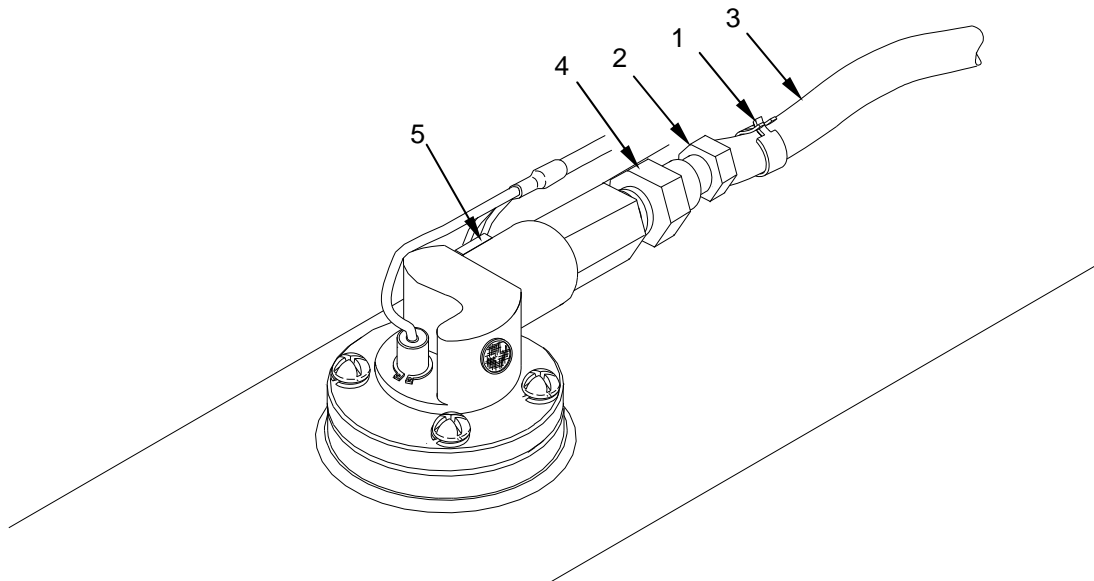

Figure 2. Inspect the Check Valve.
8. Remove the air hose by squeezing the tabs on hose clamp (Figure 2, Item 1) with a pair of pliers and slide the clamp off the vent valve fitting (Figure 2, Item 2) and onto the neoprene line (Figure 2, Item 3). It may be necessary to cut or replace the hose to remove it.
9. Remove the check valve (Figure 2, Item 4) by holding the solenoid fitting (Figure 2, Item 5) with a suitable wrench while turning the check valve with another suitable wrench. Be careful not to turn the fitting on the solenoid valve.
13. If air is drawn through the check valve, it is serviceable. Remove the check valve (Figure 2, Item 4) from the air line (Figure 2, Item 3).
14. Install the check valve (Figure 2, Item 4) by holding the solenoid fitting (Figure 2, Item 5) with a suitable wrench and turn the check valve with another suitable wrench. Be careful not to turn the fitting on the solenoid valve.
15. Connect the air line (Figure 2, Item 3) to the vent valve fitting (Figure 2, Item 2).